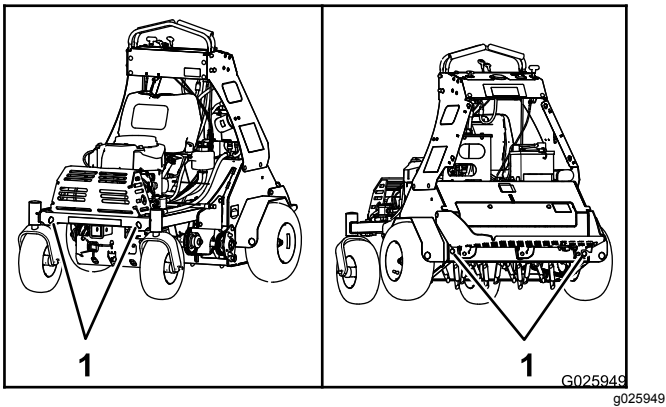

Figure 29
7. Use the tie-down points on the machine to securely bind the machine to the trailer or truck with straps, chains, cable, or ropes (Figure 29).